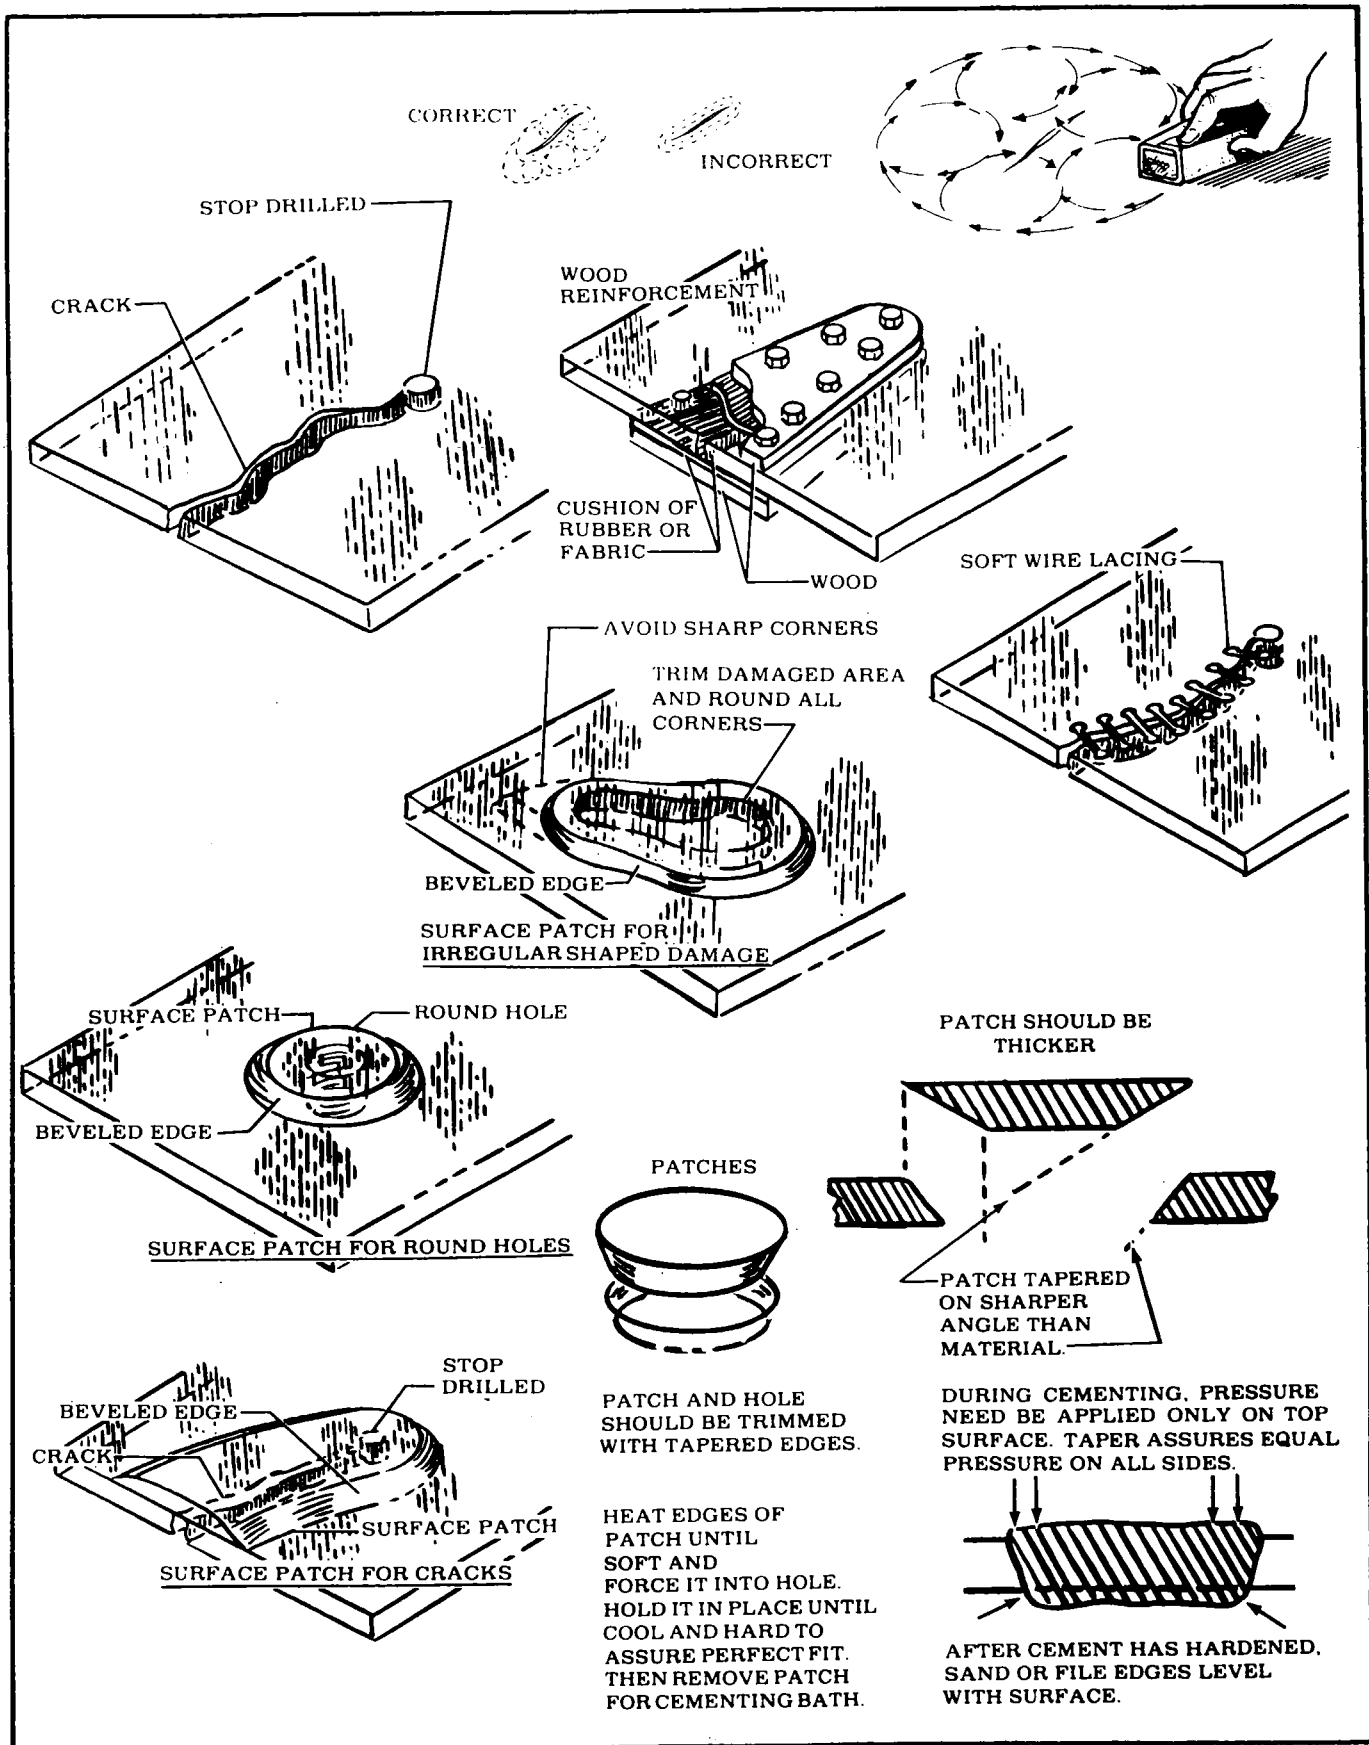

Figure 3-1. Repair of Windshield and Windows
3-2. WINDSHIELD AND WINDOWS. (See figures 3-1 and 3-2.)
3-6. REPAIR. (See figure 3-1.)
damaged transparent plastic rather than repair whenever possible, since even a carefully patched part is not the equal of a new section, either optically or structurally. At the first sign of crack development, drill a small hole at the extreme end of the crack as shown in figure 3-1. This serves to localize the crack and prevents further splitting by distributing the strain over a large area. If the cracks are small, stopping them with drilled holes will usually suffice until replacement or more permanent repair can be made. The following repairs are permissible; however, they are not to be located in the pilot's line of vision during landing or normal flight.
a. SURFACE PATCH. If a surface patch is to be installed, trim away the damaged area and round all corners. Cut a piece of plastic of sufficient size to cover the damaged area and extend at least 3/4-inch on each side of the crack or hole. Bevel the edges as shown in figure 3-1. If the section to be repaired is curved, shape the patch to the same contour by heating it in an oil bath at a temperature of 248° to 302°F., or it may be heated on a hot plate until soft. Boiling water should not be used for heating. Coat the patch evenly with plastic solvent adhesive and
b. **PLUG PATCH.** In using inserted patches to repair holes in plastic structures, trim the holes to a perfect circle or oval and bevel the edges slightly. Make the patch slightly thicker than the material being repaired, and similarly bevel the edges. Install patches in accordance with procedure illustrated in figure 3-1. Heat the plug until soft and press into the hole without cement and allow to cool to make a perfect fit. Remove the plug, coat the edges with adhesive, and then reinsert in the hole. Maintain a firm light pressure until the cement has set, then sand or file the edges level with the surface; buff and polish.
3-8. **CRACKS.** (See figure 3-1.)